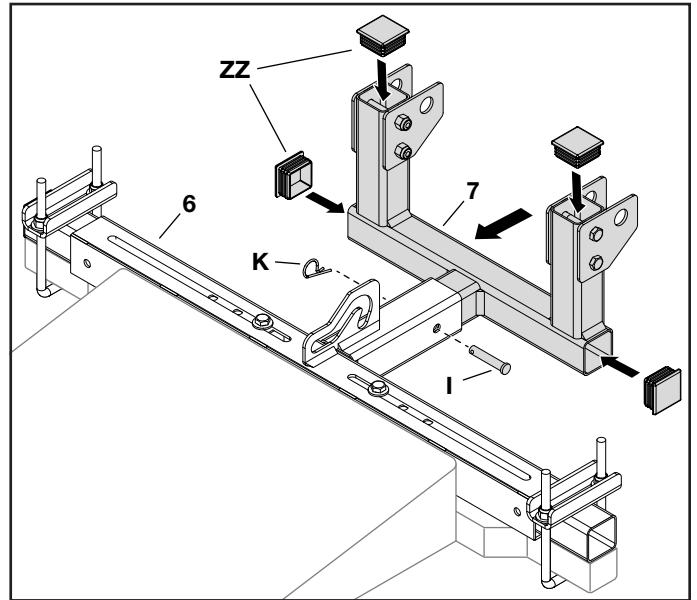

FIGURE 4
STEP 4: (SEE FIGURE 4)
- Insert the blade mount assembly (7) into the hitch mount assembly tube (6).
- Secure with a clevis pin (I) and a hair cotter pin (K).
- Insert the square plugs (ZZ) into the blade mount assembly (7). Use a rubber mallet for difficult to install square plugs.